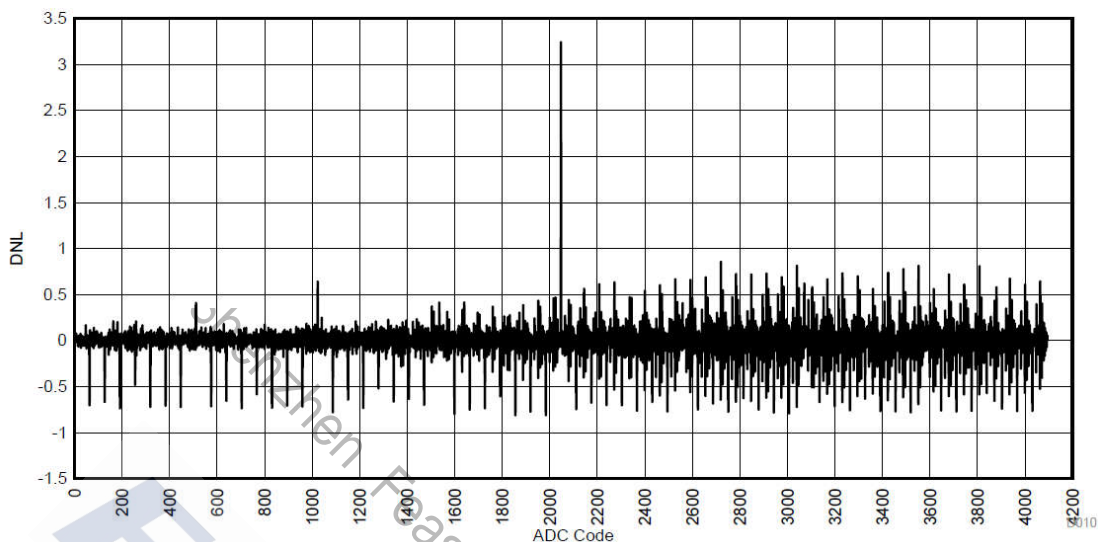

Figure 4: SoC ADC DNL vs ADC Code (Internal Reference, No Scaling)
(1) Using IEEE Std 1241™-2010 for terminology and test methods.
(2) Input signal scaled down internally before conversion, as if voltage range was 0 to 4.3 V.
(3) No missing codes. Positive DNL typically varies from +0.3 to +3.5, depending on device (see Figure 4).